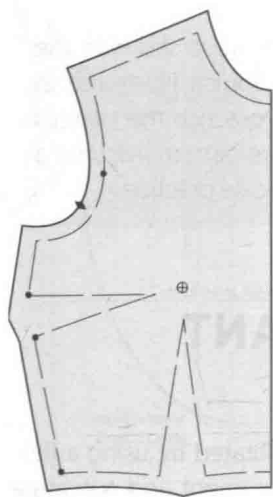

FIGURE 6.31a
2. Establish guidelines and pivot points (see Figure 6.31a) on the pattern for slashing the area.
Exercise: To develop your own alteration skill with the corrected slash method, use the bodice illustrated in Figure 6.31a–e as an example and practice the pattern alteration procedures on a half-scale pattern. Assume a $\frac{3}{8}$ inch amount of change for half-scale practice.